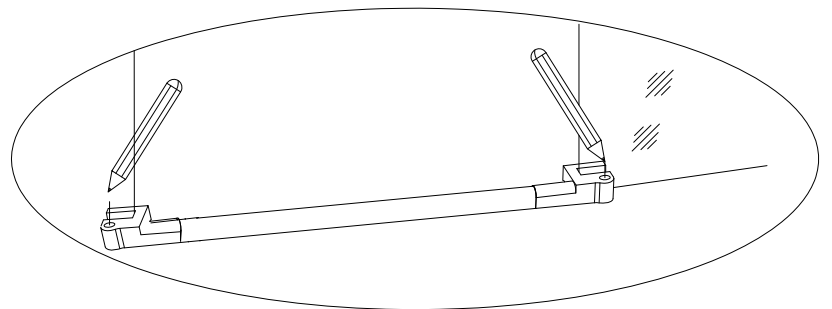

Fig.26
Position the Door Threshold bar (11) to floor by aligning in door opening with fixed glass. Mark the Threshold End Cap (12) mounting hole locations. See Fig.26 for details.